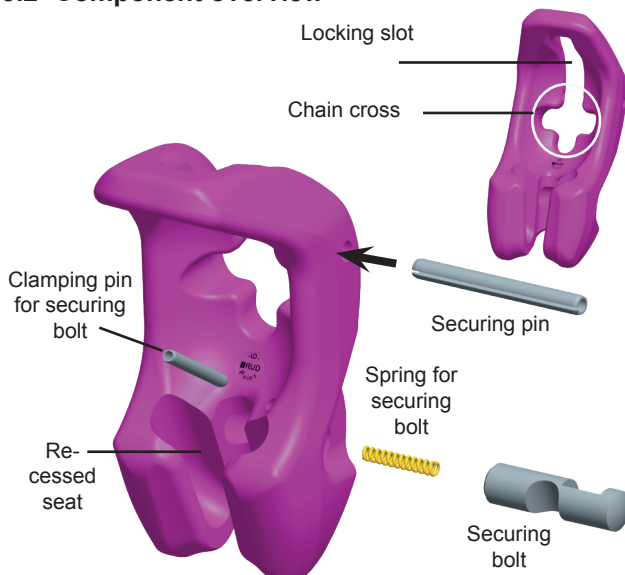

Fig. 2: VMVK (IMVK, BSEK)
- Before using a VV multi-shortening claw check that prior to each load the clamping pin for the clevis pin and the clevis pins itself is inserted completely (see fig. 2/3)